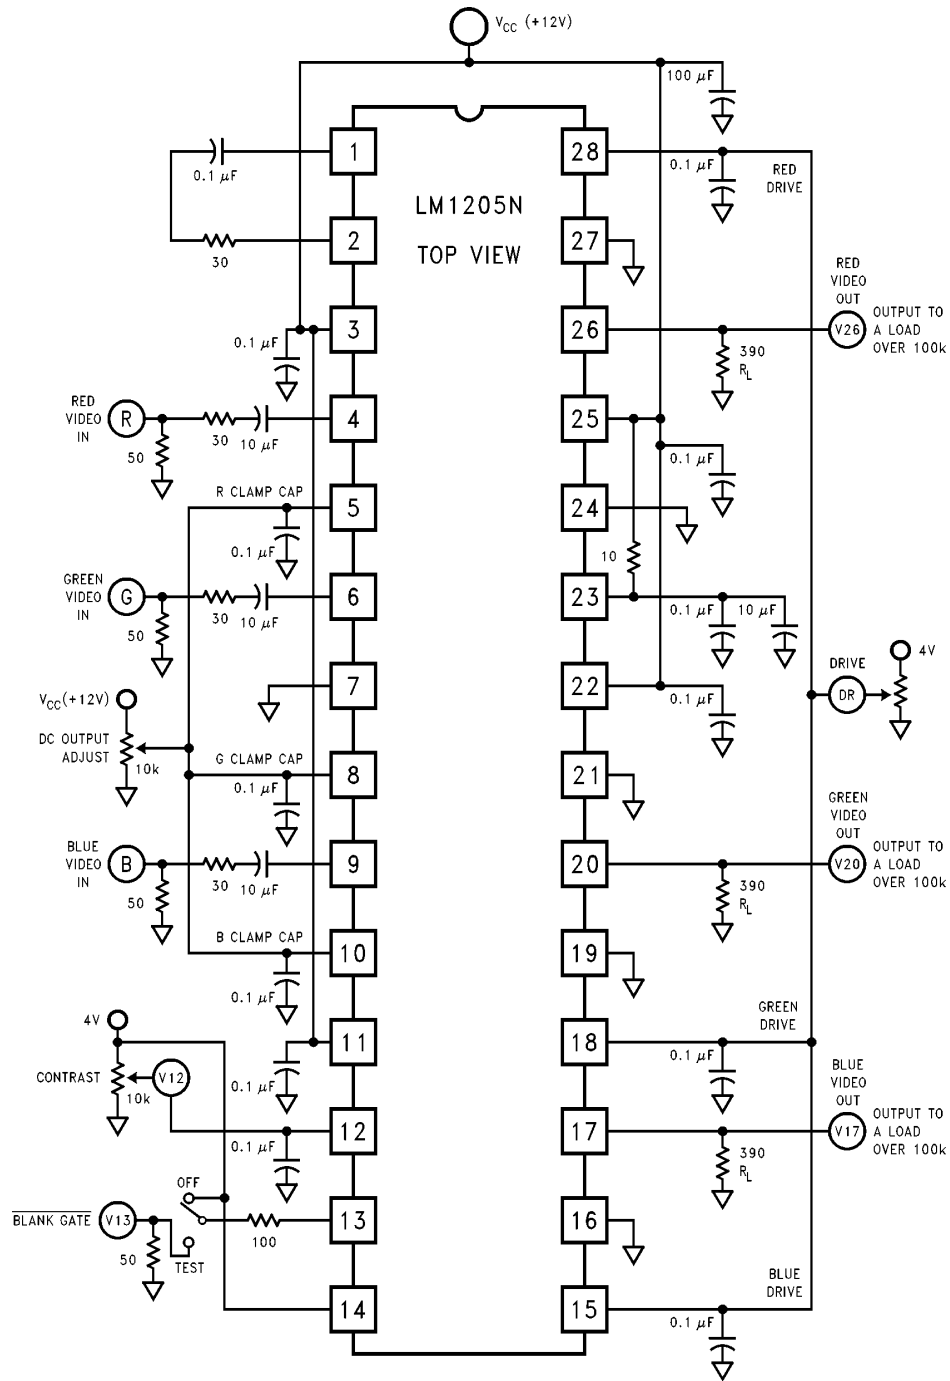

FIGURE 3. LM1205N AC Test Circuit
**AC Electrical Characteristics** See AC Test Circuit (Figure 3),  $T_A = 25^\circ\text{C}$ ;  $V_{CC1} = V_{CC2} = 12\text{V}$ . Manually adjust Video Output pins 17, 20, and 26 to 4V DC for the AC test unless otherwise stated. (Note 15).